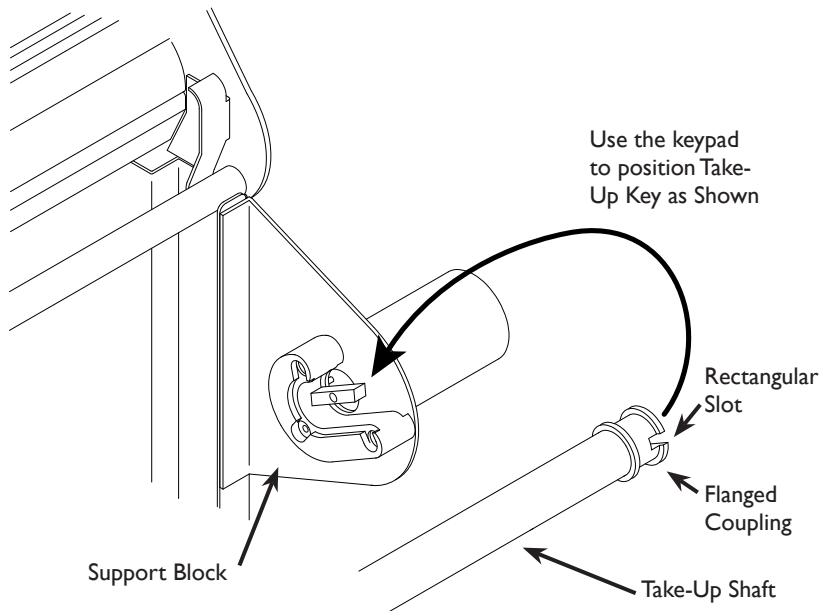

Figure 17. Installing the take-up shaft in the support blocks.
3. Use the keypad Unroll key to rotate the take-up key until it is oriented perpendicular to the support block opening as shown in *Figure 17*.
- a. With the power off, rotate the take-up shaft by hand until the rectangular opening in the flanged coupling is perpendicular to the opening in the support block (see *Figure 17*).
2. Rotate the take-up shaft by hand until the rectangular opening in the flanged coupling is perpendicular to the opening in the support block (see *Figure 17*). Remove the shaft.